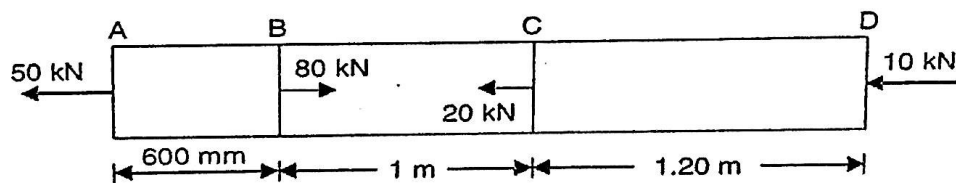

Figure 1
- b) A brass bar, having cross-sectional area of  $1000 \text{ mm}^2$ , is subjected to axial forces as shown in figure 1. Find the total elongation of the bar. Take  $E=1.05 \times 10^5 \text{ N/mm}^2$ . 8